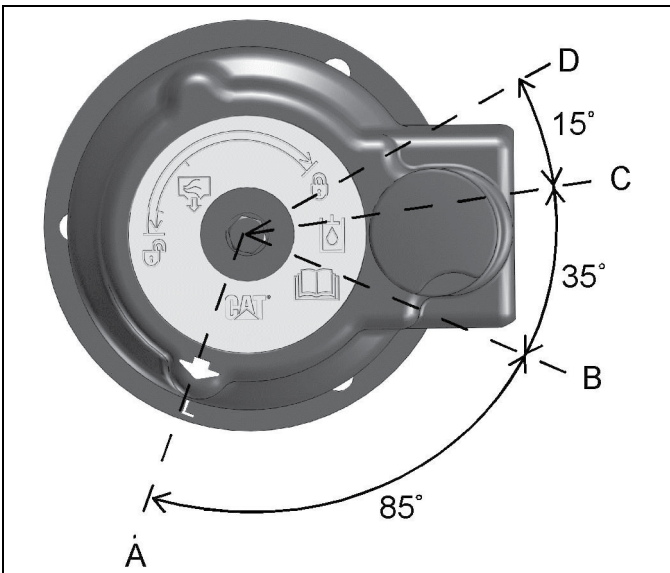

Figure 10-146: Filler Cap
5. Release the pressure that may be present in the return hydraulic circuit with the following procedure. Refer to Figure 10-146 for filler cap positions.
- a. Turn the filler cap counterclockwise and move the arrow from position (A) to position (B).
- b. Release the pressure for a minimum of 45 seconds by moving the arrow from position (B) to position (C).
- c. Move the arrow from position (C) to position (D).
8. Clean the filler cap and install on the tank. Tighten the filler cap on the hydraulic tank to position (A).